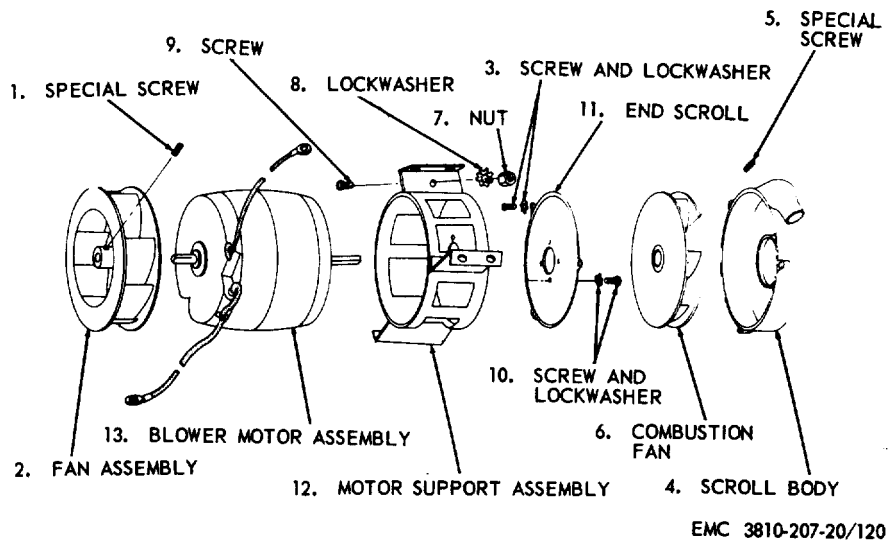

Figure 120. Blower, exploded view.
b. Disassembly. Disassemble the crane heater blower in the numerical sequence as illustrated on figure 120.
- (1) Clean all parts with an approved cleaning solution and dry thoroughly.
- (2) Inspect all parts for operation, bends, and other damage. Replace or repair damaged parts, as necessary.
d. Reassembly. Reassemble the crane heater blower in the reverse numerical sequence as illustrated on figure 120.